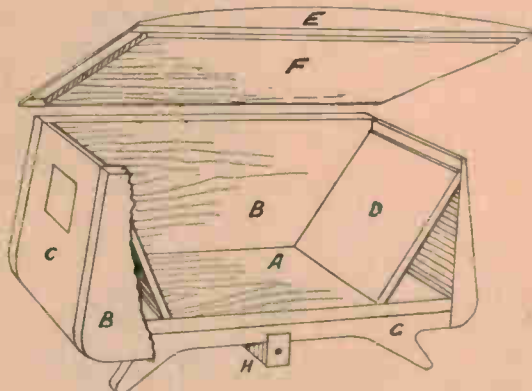
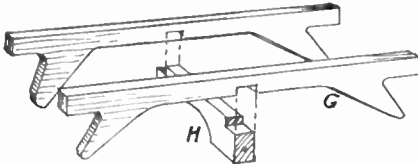

Fig. 1—Showing the main constructional details
Fig. 2—The chassis
THIS is a cigarette box in which novelty-seekers should find interest and enjoyment. As will be seen from the sketch in Fig. 1, it is fashioned after a modern trailer caravan, and can be painted up appropriately or polished.
The method of making-up can plainly be understood from the details in Figs. 1
and 2. On a plain floor (A) Fig. 1, two shaped sides (B) are glued, and between these sides the two ends (C) are fitted. Then inside the box thus formed there are two sloping inner ends (D), so arranged that the cigarettes are easily drawn out. A plain shaped lid (E), with an interior oblong piece (F) glued inside it to hold it in place, is shown being raised off the box. The chassis carrying the box is shown in Fig. 2 and consists of the two shaped rails (G), and the cross axle (H) to which the wheels are later fixed.
The rails (G) are cut from $\frac{1}{2}$ in. wood, while the axle (H) is $\frac{3}{8}$ in. thick, which allows a firm fixing for the wheels. Fig. 2 shows how the axle goes in the recesses of (G) where it is glued.